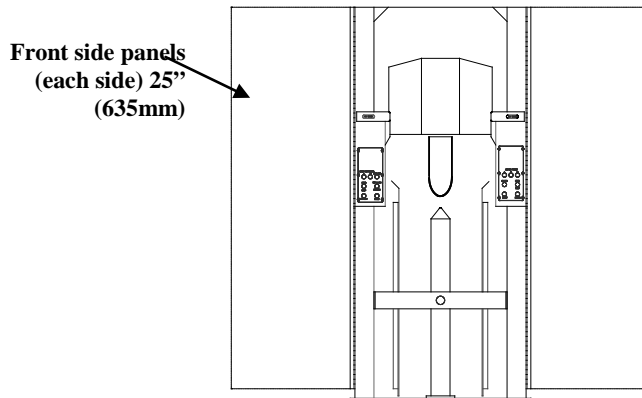

Figure 1
maintenance. Figures 1 through 3 show the positions of open doors or panels, etc. Figure 4 shows recommended spacing for placement of two (2) machines.